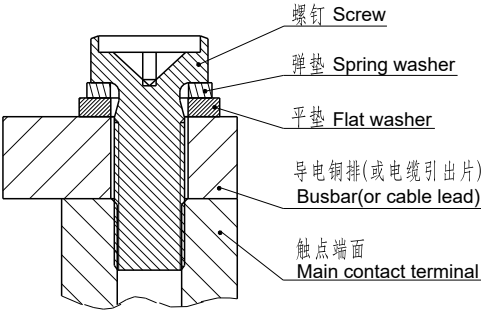

图1(Fig1)
9.当产品使用1个及多个导电铜排连接时，请确保导电铜排与触点端面紧密贴合（多个铜排需确保大电流的导电铜排最贴近触点端面，小电流的导电铜排其次），然后是平垫圈、弹簧垫圈、螺钉。不正确的连接顺序可能造成严重过热，参考下图1：
When the product is connected with one or more conductive copper bars, please ensure that the conductive busbars closely fit the contact terminal surface (The conductive copper bars with high current must be closet to the contact terminal surface if there are multiple copper bars and then conductive busbars with low current), followed by flat washers, spring washers and screws.Incorrect connection sequence perhaps give rise to severe overheating. Refer to Figure 1 as follows: